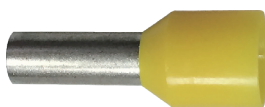

Figure 4-3 : Terminal for wire crimping
- Please choose the terminals as shown in **Figure 4-3** for wires crimping.